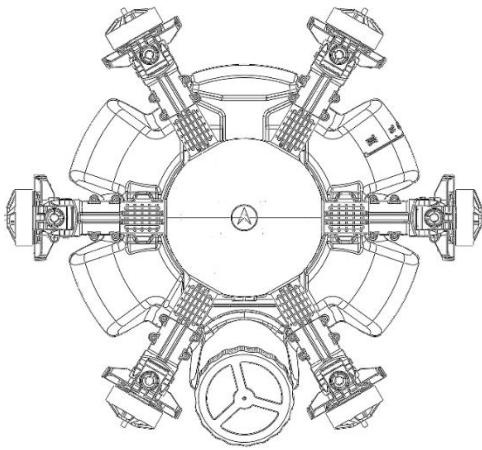

Figure 12
- 5) Install the rest 5 arms as above, it will be completed like Figure 12.